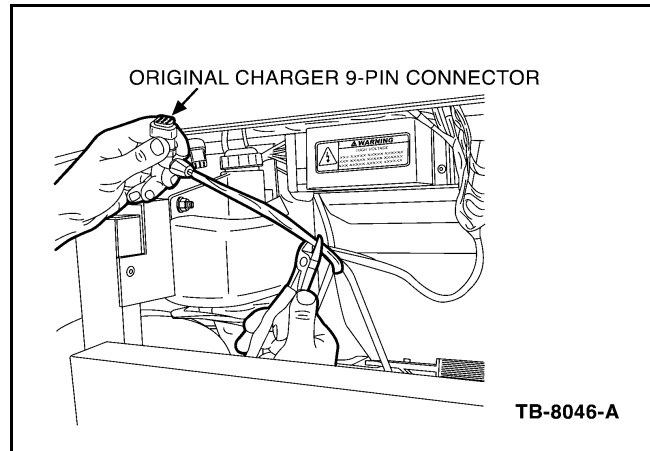

Figure 5 - Article 04-24-9
3. Remove the 9-pin DC on board battery charger connector by cutting it off 6" (15 cm) back from the connector end (Figure 5).